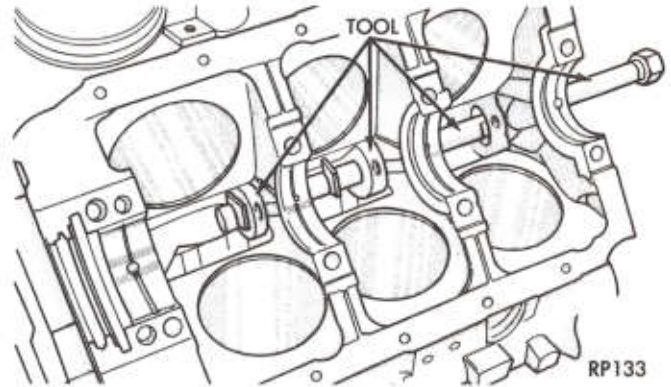

Fig. 36—Removal and Installation of Camshaft Bearings with Tool C-3132A
(1) With engine completely disassembled, drive out rear cam bearing core hole plug.
(2) Install proper size adapters and horse shoe washers (part of Tool C-3132-A) at back of each bearing shell to be removed and drive out bearing shells, (Fig. 36).